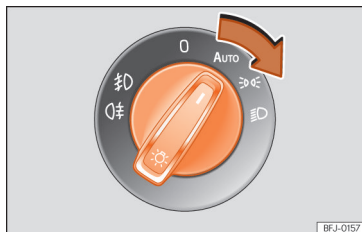

Fig. 71 Instrument panel: light panel.
- Turn on the ignition and turn the light switch to the desired position >>> **Fig. 71**: